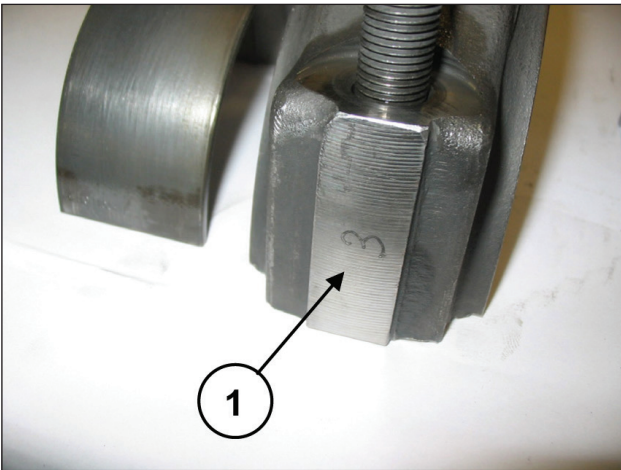

Fig. 34
Couple the half-conrods to the previously disassembled caps, referring to the numbering (pos. ①, Fig. 34).
Separate the caps from the half-conrods. Proper coupling can be verified by the numbering on the side (pos. ①, Fig. 34). After having checked casing cleaning, proceed with assembly of the half conrod-piston guide unit inside casing rods (pos. ①, Fig. 33).